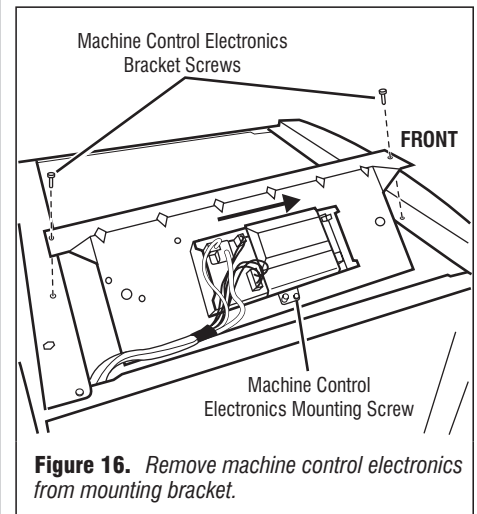
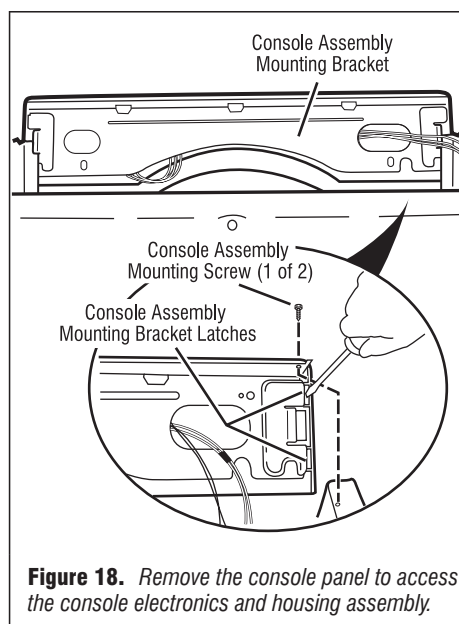

Figure 16. Remove machine control electronics from mounting bracket.
Figure 18. Remove the console panel to access the console electronics and housing assembly.
1. Perform preceding steps 1 and 2, then remove the two screws that hold the machine control electronics bracket in place. See figure 16.
2. Slide the bracket over the top of the drum to access the machine control electronics connectors and mounting screw. See figure 16.
4. Remove the screw holding the machine control electronics assembly to the mounting bracket. See figure 16.
2. Remove the screw that fastens the assembly to the machine control mounting bracket (figure 16, page 9), and the two screws that fasten the console assembly to the dryer (figure 18).
4. Slide the console up and off of the dryer. See figure 18.
5. The console mounting bracket is fastened to the console front panel with two latches at both sides of the console assembly. Unlatch the bracket gently with a screwdriver while pulling the mounting bracket assembly out. See figure 18.